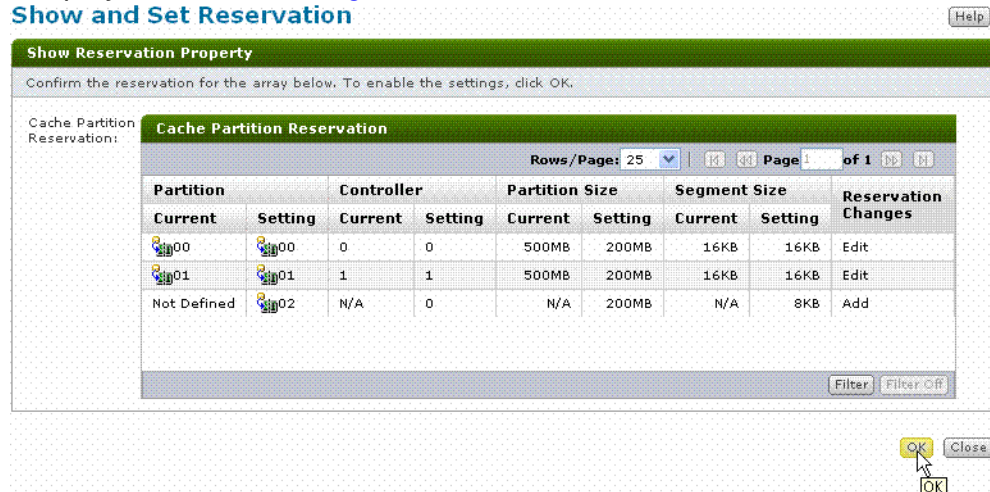

Figure 7-7: Show and Set Reservation window
- Click **Show & Configure Array**. The Show and Set Reservation window displays as shown in Figure 7-7.